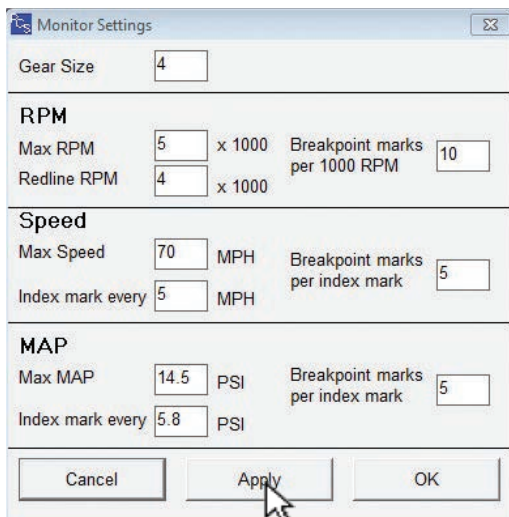

Figure 2
- The "Monitor Settings" dialog box will be shown. **Reference Figure 2.**